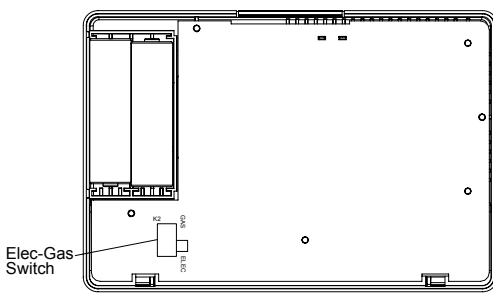

Figure 1. Electric/Gas Switch (Fan Option)
This thermostat is configured from the factory to operate a heat/cool, fossil fuel (gas, oil, etc.), forced air system. It is configured correctly for any system that DOES NOT require the thermostat to energize the fan on a call for heat. If your system is an electric heat or heat-pump system that requires the thermostat to turn on the fan on a call for heat, locate the ELEC/GAS switch on the back of the thermostat (see fig. 1) and switch it to the ELEC position. This will allow the thermostat to energize the fan immediately on a call for heat. If you are unsure if the heating/cooling system requires the thermostat to control the fan, contact a qualified heating and air conditioning service person. When the thermostat is configured for Heat Pump, the thermostat will always power the circulator fan on a call for heat in the HEAT mode. The ELEC/GAS switch must be set to match the type of Auxiliary heat your system uses for proper operation in the EMERGENCY mode. All wiring diagrams are for typical systems only. Refer to equipment manufacturers' instructions for specific system wiring information.
- Fasten base loosely to wall, as shown in fig. 1, using two mounting screws. Place a level against bottom of base, adjust until level, and then tighten screws. (Leveling is for appearance only and will not affect thermostat operation.) If you are using existing mounting holes, or if holes drilled are too large and do not allow you to tighten base snugly, use plastic screw anchors to secure subbase.